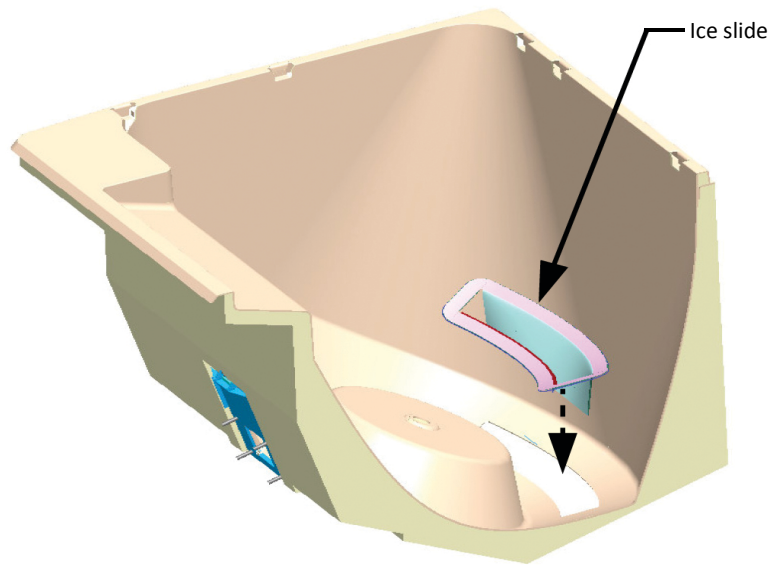

Figure 2. Ice Slide Assembly
1. Place ice slide into ice drop opening in bin, See Figure 2.